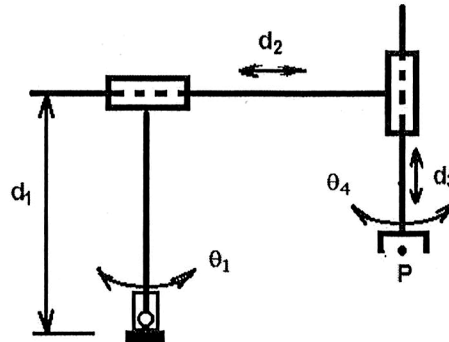

Fig. Q3
3. A 4-DOF manipulator is shown in Fig.Q3. For the link and joint parameters shown on the figure determine the position and orientation of the point P on the tool with respect to the base coordinate frame.